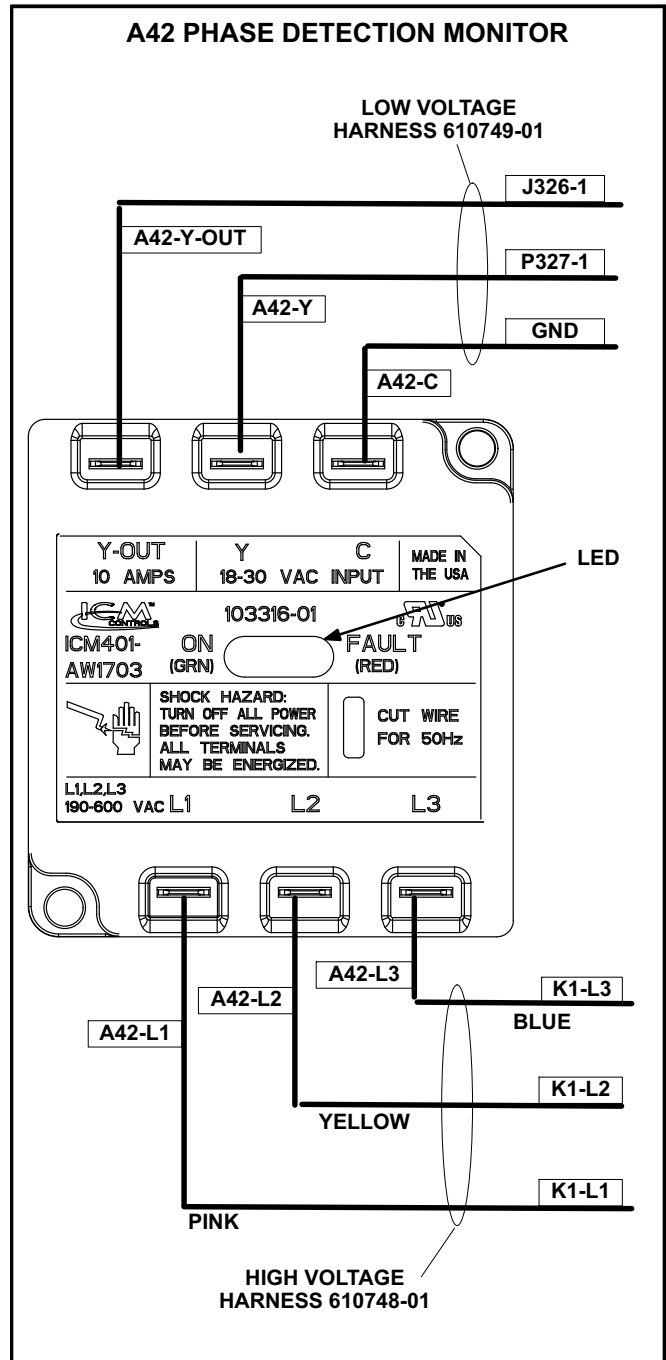

FIGURE 1
Mode of operation (see figure1):
- 3- Connect low voltage harness, 610749-01, to A42 device using terminals Y-out, Y and C. See figure 1.
- 6- Connect high voltage harness, 610748-01, to A42 device using terminals L1, L2, and L3. Connect the pink wire to L1, yellow to L2 and blue to L3. See figure 1.